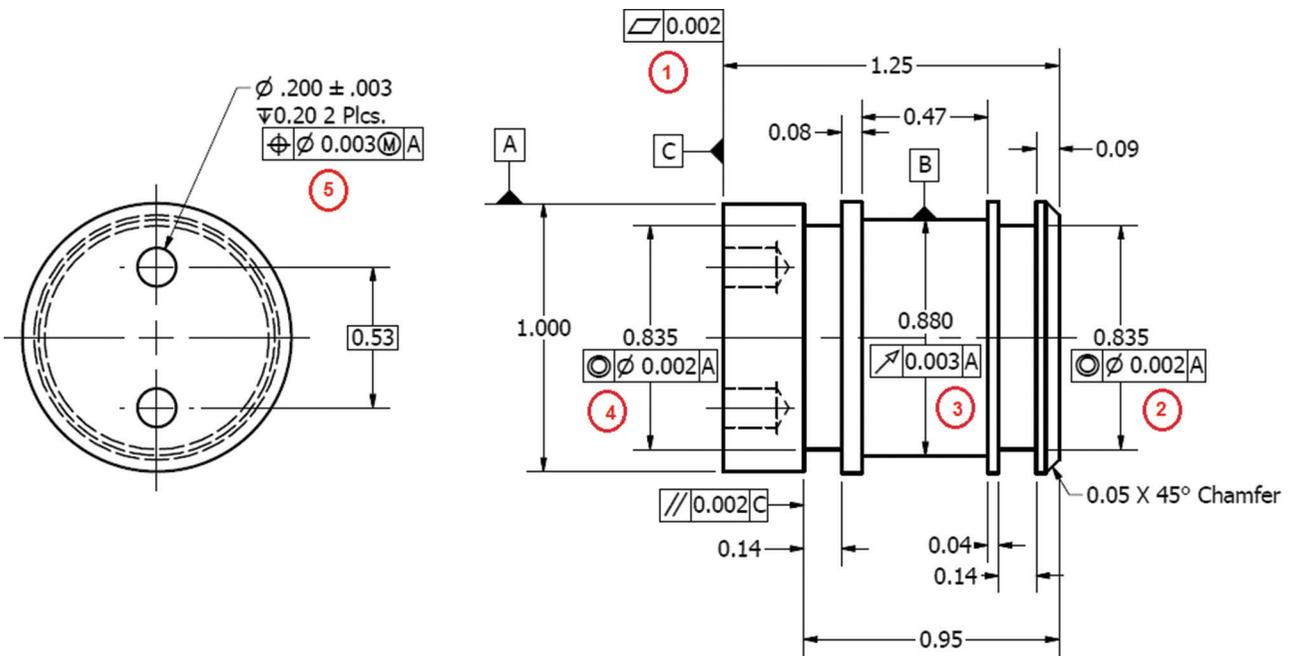

Figure A-113 Lathe part.
5. Thoroughly explain the numbered features and tolerances (red 1-5) shown on the print in Figure A-113. Complete the tolerance table.